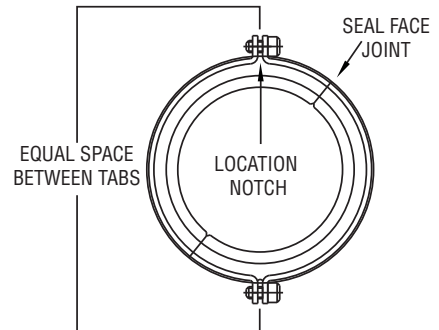

FIGURE 5
5. Evenly tighten the screws in the clamp ring halves to the torque value specified on the top assembly drawing in order to secure the assembly. Do not cross-thread or force the screws. Screws should thread smoothly. There should be the same amount of space between the tabs on each side as seen in Figure 5. Do not overtighten the clamp ring screws as distortion to the seal face may occur.